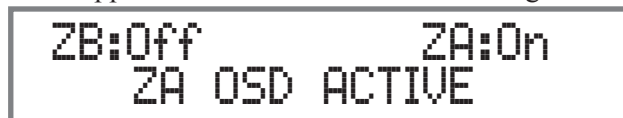

Figure 1
1. Press the STANDBY/ON Push-button to switch On the VP1000. Refer to figure 1.